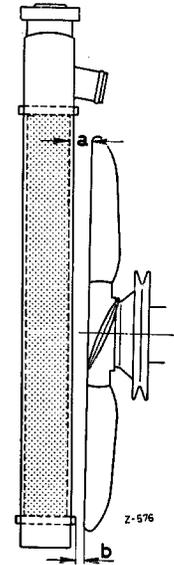

Figure 20-5/2
Now insert the water pump in the cylinder head, so that the filler cap (1) with the vent hole is exactly on top. Screw in the fixing screws of the water pump. Fix the pipe clip holder (4) to the water pump with the two longer screws M 6 x 18. Tighten all screws evenly (see Figure 20-5/1).
10. Tighten the hexagon screw fixing the pipe clip (3) to the holder (4). The pipe clip must properly clamp the lines to prevent vibrating of the lines.
Note: On the vehicle engine for the 180 D, type 636.930, do not fail to keep to the distances $a = 20$ mm, $b = 14$ mm (see Figure 20-5/2). If necessary, correct by dislocating the radiator.
14. Fill the water pump housing with Hypoid oil SAE 90. To do this, unscrew the filler plug (1) and also the oil level check screw (2) located at the side of the housing. Fill in until the oil flows out of the level check hole. Reinstall the two plugs (see Figure 20-5/1).
8. Adjust the tension of the V-belt (see Job No. 20-6, Section B, OM 621, item 2).
10. Mount the radiator ensuring that with the vehicle engine type 621.910, there is a distance $a = 20$ mm and $b = 14$ mm between fan and radiator (see Figure 20-5/2).
11. Fill Hypoid transmission oil SAE 90 into the bearing housing of the water pump. To do this, unscrew the oil filler cap (1) and the check screw (2), which is located at the side. Fill in oil until it flows out from the lateral check bore. Again screw in the screw plugs (see Figure 20-5/1).